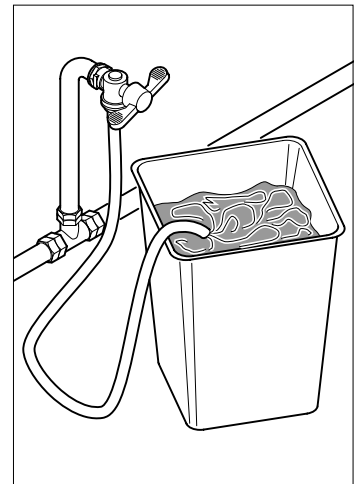

Fig. 6.4
- before making water connections, make some water flow out of the tap so as to eliminate possible traces of impurities and dirt (Fig.6.4)